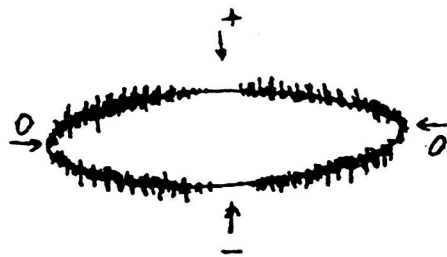

Fig. 21
f) Poor contact (Fig. 21), waveform characteristics: symmetrically distributed on both sides of the zero point of the test voltage, the amplitude is roughly unchanged, but it drops to zero near the peak value of the test voltage, and the waveform is rough and unclear. When the voltage increases, the amplitude increases slowly, and sometimes it disappears completely when the voltage reaches a certain value. Causes: the connection point of metal to metal poor contact in the test circuit; the poor contact of semiconductor particles in the shielding layer of plastic cable; the plug piece of aluminum foil of capacitor, etc. (the capacitor can be charged and then short circuited to eliminate)
system and improve the detection sensitivity. As shown in Fig. 21, the two-stage T-shaped filter can attenuate the 30kHz signal by 60dB if $L = 0.5\text{h}$ and $C = 0.004\text{f}$. Of course, the high voltage filter must also have no discharge under the test voltage. Domestic units have used the tuned frequency selective filter in series in the high voltage lead, and the effect is also very good.